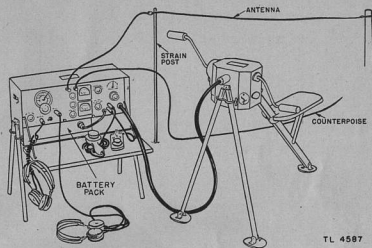

FIGURE 5.—Radio set SCR-288 set up for operation (receiver employing battery pack).
8. Installation.—See figures 5 and 6 and see FM 24-5 as a guide in selection of a site. The exact location of the set must be such that the outer end of the 35-foot antenna can be suspended from some convenient object by the 15-foot suspension cord. Where there are no convenient objects the using personnel must improvise.
b. Receiver operation by means of batteries (see figs. 5 and 6).—(1) Turn switch marked REC-TRANS (located at bottom of panel underneath ANT and GND binding posts) to the REC position.
(2) Insert the phone plug in the jack marked PHONES. (This is a filament switching jack and the receiver is inoperative unless headphones are plugged into this jack.)